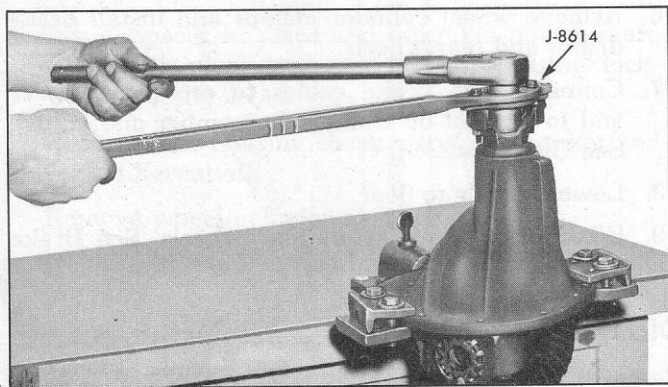
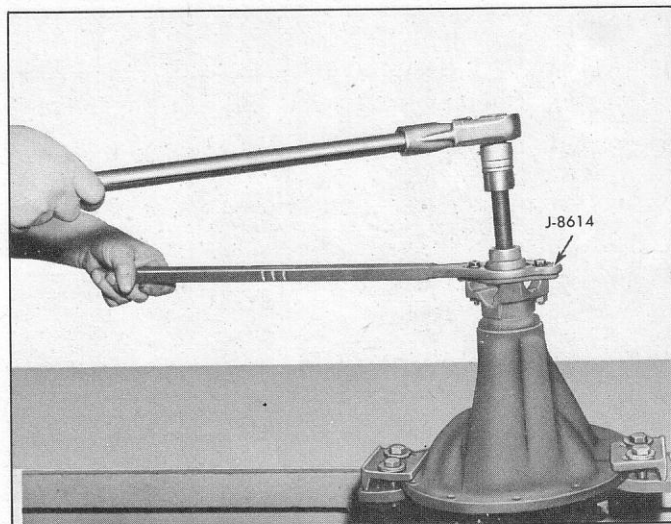

Fig. 19—Removing Companion Flange Nut
Fig. 20—Removing Companion Flange
7. Hold companion flange from turning by installing Tool J-8614-1 or J-2637 and remove propeller shaft pinion flange nut and washer (fig. 19). Remove flange by using Tool J-8614-2 or J-2637, bolted to flange with holding tool in place (fig. 20).